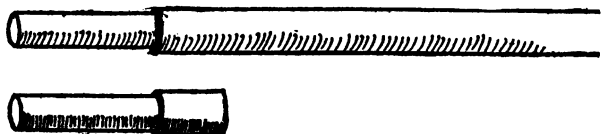

Fig. 34.—Large End of Tip, Shouldered to Fit a Capped Ferrule Center.
**T**O make a rod of the second class, in which the handgrasp is to be single and nine inches in length, the wood for the tip, inclusive of the agate top, will be approximately  $58\frac{1}{2}$  inches long, as the ferrule center on the large end of the tip will enter the handgrasp ferrule about  $1\frac{1}{2}$  inches. These ferrules should be 15-32 of an inch in diameter and of the type shown in Fig. 17. The large end of tip is marked for a distance equal to the small end of the center, and the wood carefully reduced with a file until it will enter the center snugly to its very end, as illustrated in Fig. 34. The center is then cemented on, and the tip is ready for its rubbed coat of varnish and the winding. Obviously this tip is to be made of the same diameter as rods of the first class—described in a preceding chapter—save that it begins to taper at the ferrule.